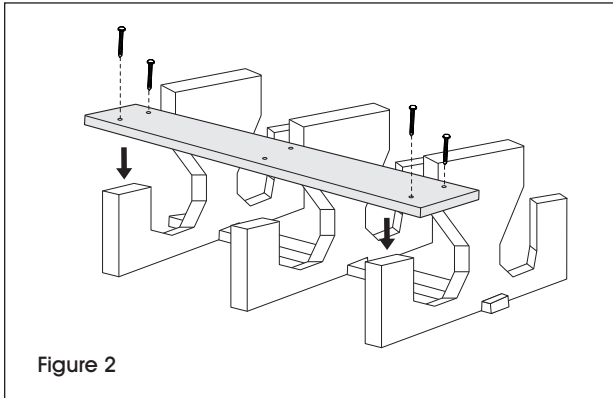

Figure 2
3. Place one table slat on each side of the plastic base (seat area). Pre-drill the end holes on the slats using the power drill and 3/8" drill bit. Loosely attach slats to the plastic base using 4" lag screws, power drill and 3/4" socket bit (will tighten later in step 8). (See Figure 2)